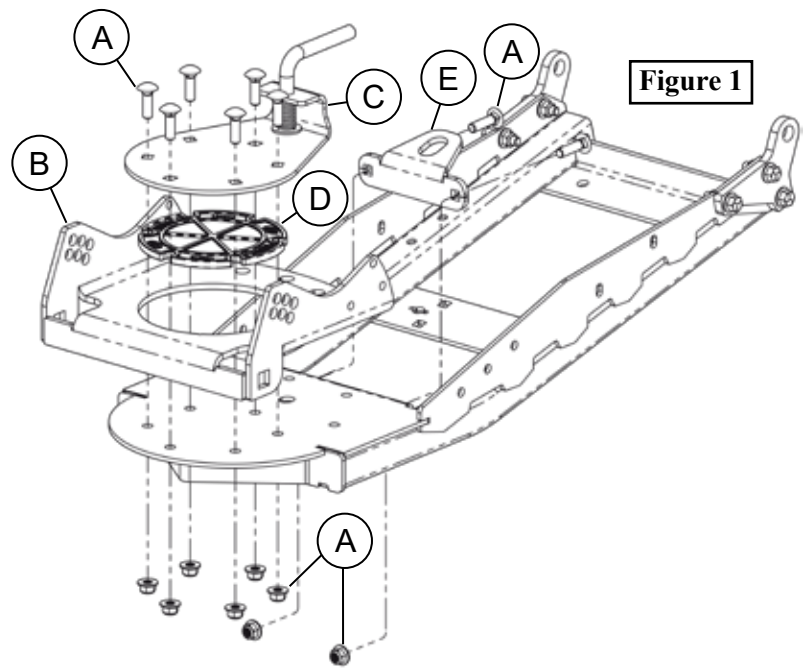

Figure 1
1. If installed, remove pin attachment brackets (C) and hardware (A and B) as shown in **Figure 1**. If not installed, proceed to **Step 2**.
1. Remove and discard the existing standard pin attachment brackets (A) and hardware (B) as shown in **Figure 1**.
1. Unbolt hardware (A) and remove cradle (B), Lift latch assembly (C), pivot bushing (D), cable hook bracket (E) shown in **Figure 1**.
1. Remove and discard the outermost wear bar carriage bolt (A) on the driver side of the plow as shown in **Figure 1**.
2. Hold Side Shield (1) in place on driver side of the blade and secure using 5/16 bolts (3.3) and 5/16 nuts (3.6) as shown in **Figure 1 & 2**. **Note:** Do not tighten at this time.
1. Remove and discard the outermost wear bar carriage bolt (A) on the passenger side of the plow as shown in **Figure 1**.
2. Hold Side Shield (1) in place on passenger side of the blade and secure using 5/16 bolts (3.3) and 5/16 nuts (3.6) as shown in **Figure 1 & 2**. **Note:** Do not tighten at this time.
1. Begin assembling the Snatch Block as shown in **Figure 1**. Insert the Flange Bolt (4.1) through Side Plate (2), then Spacer (4.4), then the Plow Pulley Bushing (4.5) inside the Steel Plow Roller Pulley (3), then the second Spacer (4.4), and finally the opposite Side Plate (2). Secure the assembly with the Nut (4.2). **Do not overtighten; the pulley should spin freely with the cable.**